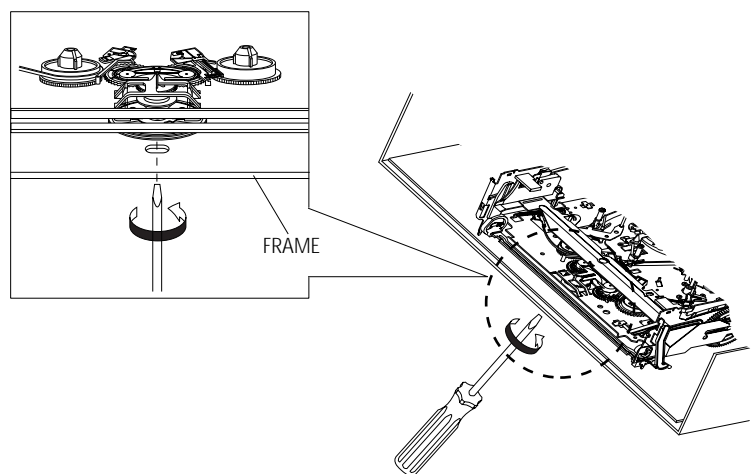

Fig. 3
- 2) When Slider S, T approaches the unloading position, rotate holder Clutch counterclockwise after inserting screwdriver in the frame's bottom hole in order to wind the unwound tape. (Refer to Fig. 3)